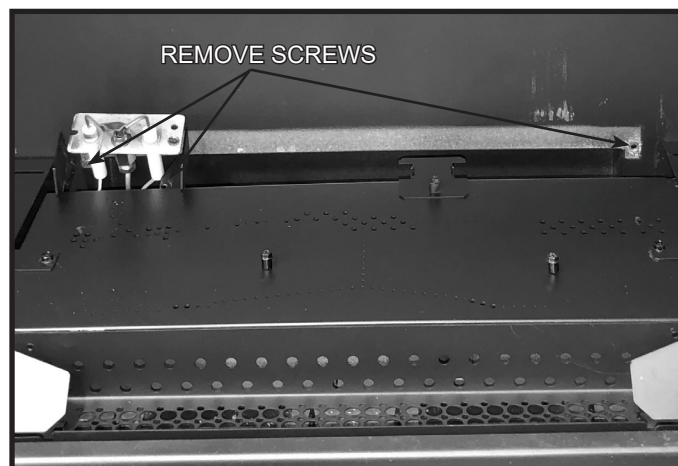

Figure 2 Remove Screws that Secure Rear Bracket to Firebox
3. Locate and remove the two screws that secure the rear refractory bracket in place. See Figure 2. Retain these screws for later use.